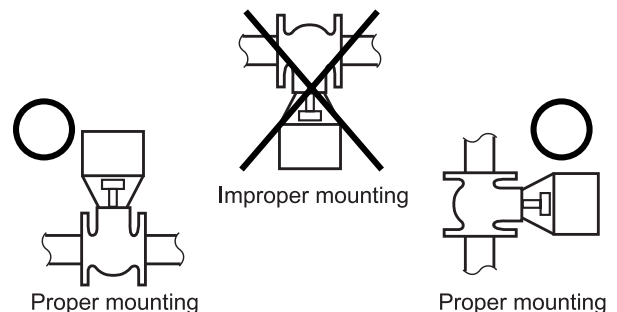

Figure 4. Actuator mounting position
- 6) The actuator can be mounted in any position from upright to sideways. The ACTIVAL should be installed with its actuator vertically positioned above the valve body. (See Fig. 4.) However, the ACTIVAL must be installed always in upright position outdoors.